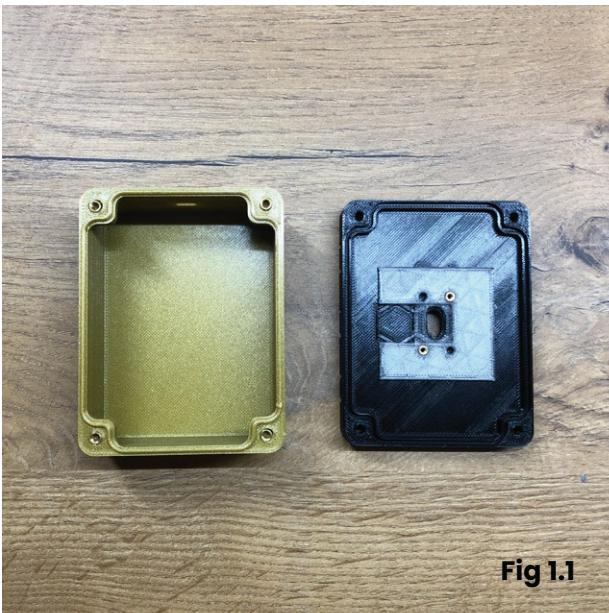

Fig 1.1
- **Fig 1.1.** This will help with securing everything with the machine screws.